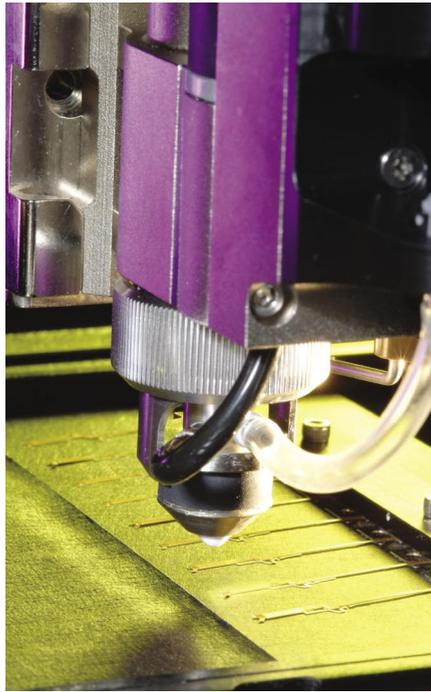

Figure 2. Jetting technology enables surface mount adhesive to be applied after solder paste without disturbing the paste.
- SMT applications where it is necessary to apply surface mount adhesives to an assembly after solder paste has been applied. Because of the jet nozzle's ability to fit into tight spaces, and because it can build up a dot quickly by applying many shots in the same location, surface mount adhesive can be applied after solder paste without disturbing the paste (Figure 2).